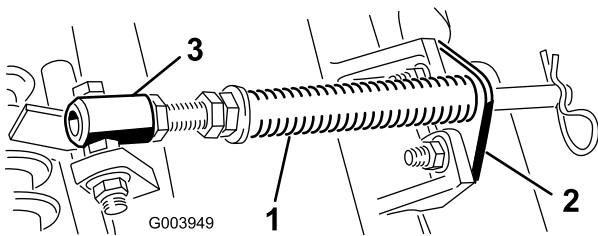

Figure 5
A. Remove the 2 carriage bolts and nuts securing the rod bracket to the cutting unit tabs (Figure 5).
B. Remove the flange nut securing the spring tube bolt to the carrier frame tab (Figure 5) Remove the assembly.